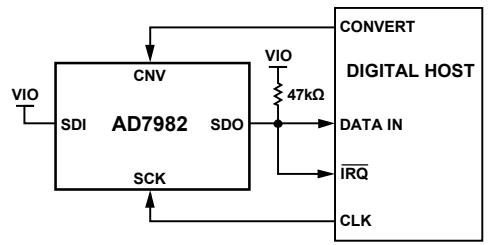
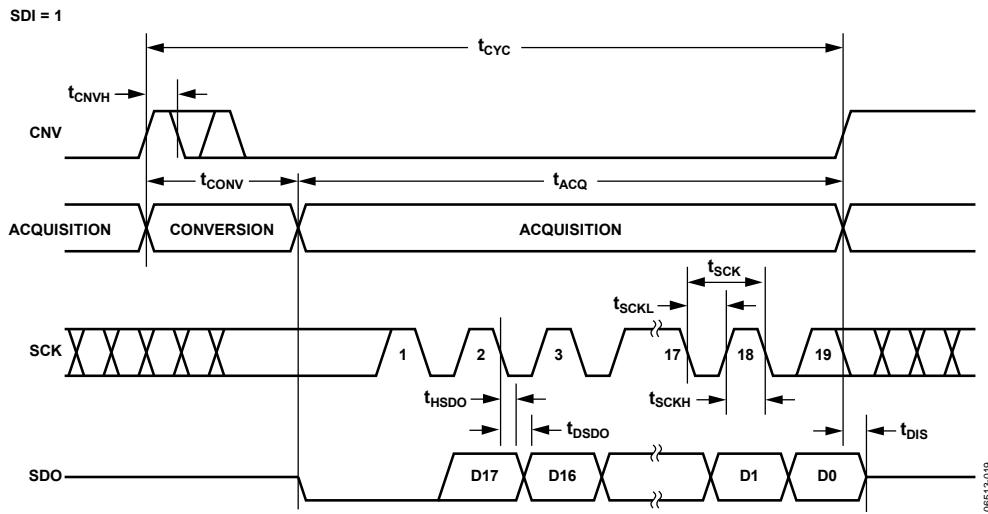
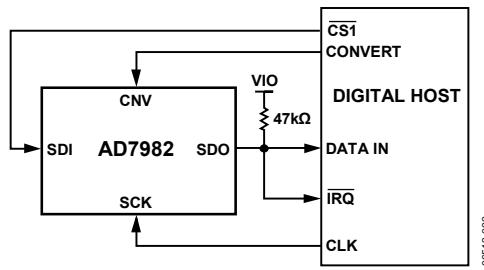
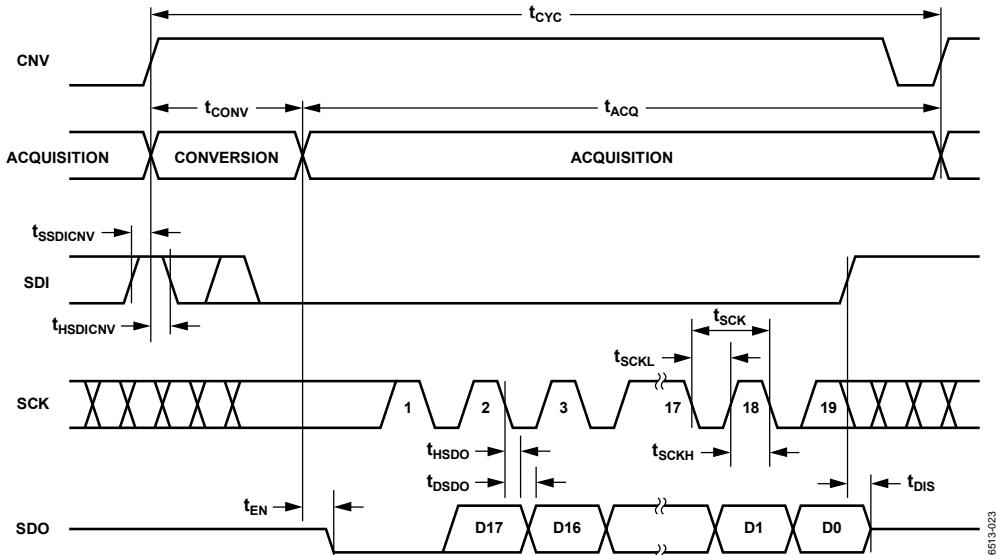

Figure 31. \overline{CS} Mode, 3-Wire with Busy Indicator Connection Diagram (SDI High)
Figure 32. \overline{CS} Mode, 3-Wire with Busy Indicator Serial Interface Timing (SDI High)
Figure 35. CS Mode, 4-Wire with Busy Indicator Connection Diagram
Figure 36. CS Mode, 4-Wire with Busy Indicator Serial Interface Timing
- In the \overline{CS} mode if CNV or SDI is low when the ADC conversion ends (see Figure 32 and Figure 36).
The connection diagram is shown in Figure 31, and the corresponding timing is given in Figure 32.
The connection diagram is shown in Figure 35, and the corresponding timing is given in Figure 36.